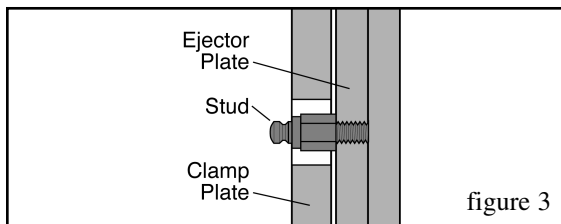

figure 3
1. Install studs into the mold ejector plate. See figure 3. If the press has a non-adjustable ejector home position, insert spacers under the stud so the shoulder is flush with the back face of the mold clamp plate. Use a thread-locking compound where threaded parts connect to prevent movement during use.
1. Install studs into the mold ejector plate. See figure 3. Use a thread-locking compound where threaded parts connect to prevent movement during use.